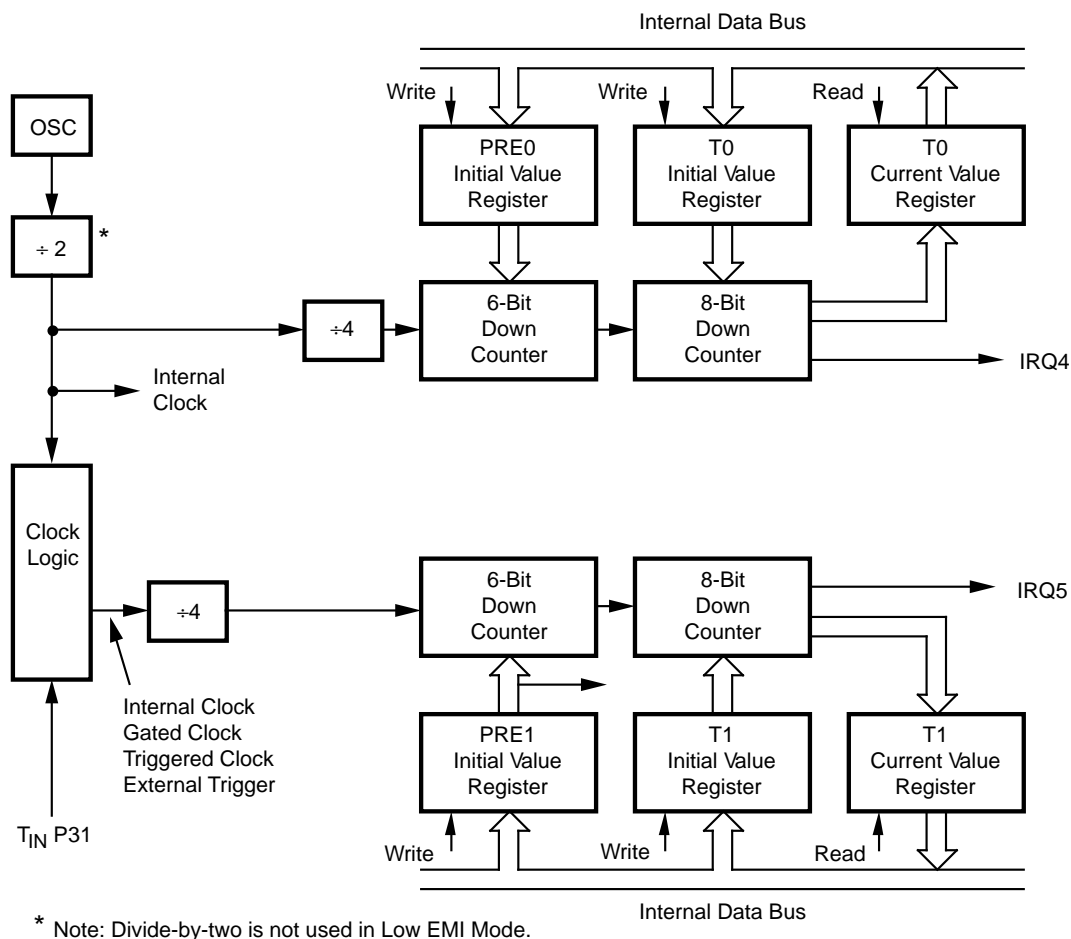

Figure 13. Counter/Timers Block Diagram
**Register File.** The Register File consists of three I/O port registers, 125 general-purpose registers, and 14 control and status registers (R0, R2-R3, R4-R127, and R241-R255, respectively; see Figure 12). Note that R254 is available for general purpose use. The Z8 instructions can access registers directly or indirectly through an 8-bit address field. This allows short 4-bit register addressing using the Register Pointer. In the 4-bit mode, the register file is divided into eight working register groups, each occupying 16 continuous locations. The Register Pointer (Figure 13) addresses the starting location of the active working-